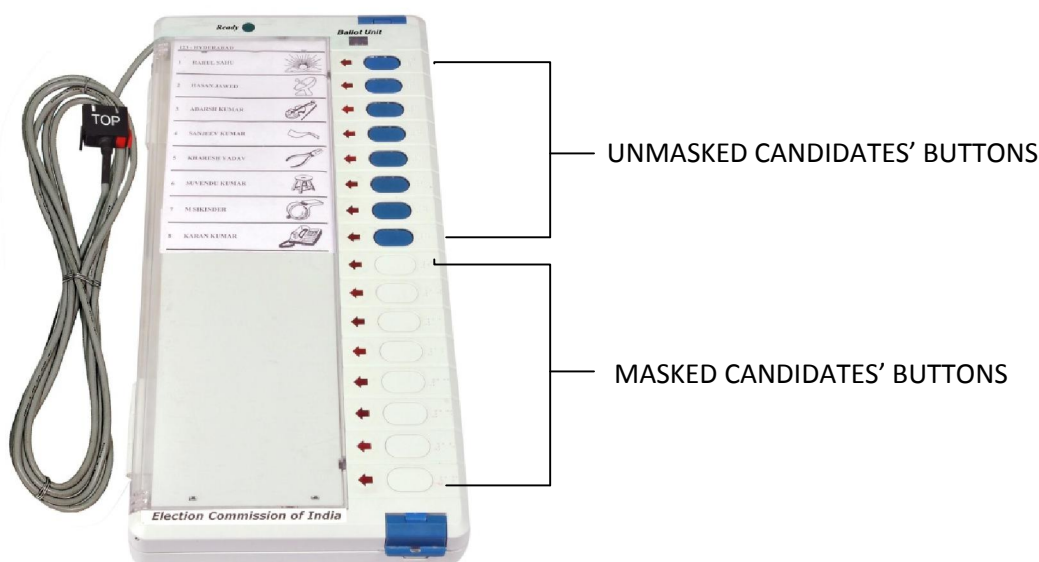

Fig.19 Balloting Unit set for 8 Candidates
**NOTE:** For example, if the number of candidates are 8, the first 8 (i.e., 1 to 8) candidates' buttons are left unmasked and the remaining 8 (i.e., 9 to 16) shall be masked as shown in Fig.19